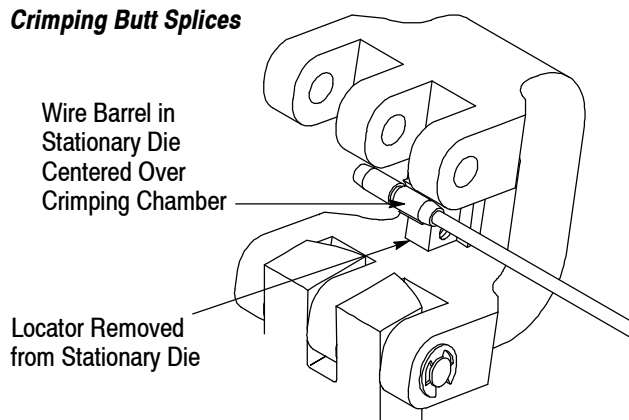

Figure 7
- Place the butt splice in the stationary die with the wire barrel of the end of the splice to be crimped centered over the crimping chamber. See Figure 7.